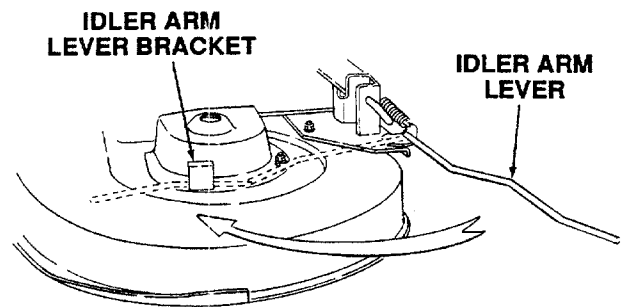

**Figure 58**
11. Twist the PTO belt 1/4 turn to engage the narrow sides of the belt into the grooves of the two tractor front-lower pulleys (Refer to Figure 58).